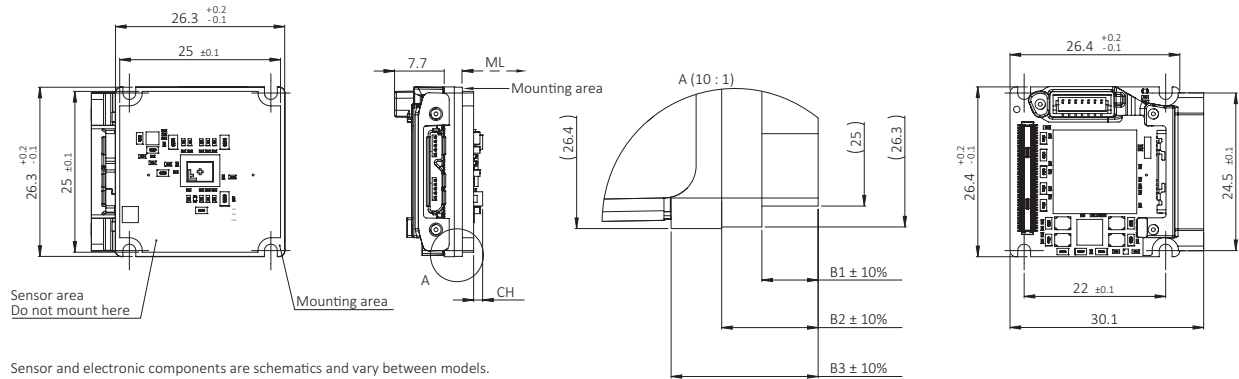

Figure 6: USB Bare Board 90° dimensions
Dimensions that are common between different models are shown in Figure 6, model specific dimensions are listed in Table 13. **Mechanical length (ML)** defines the mechanical distance from the mounting area to the lens mount front flange. **Components height (CH)** relates to the electronic components with maximum height, in some cases the sensor.